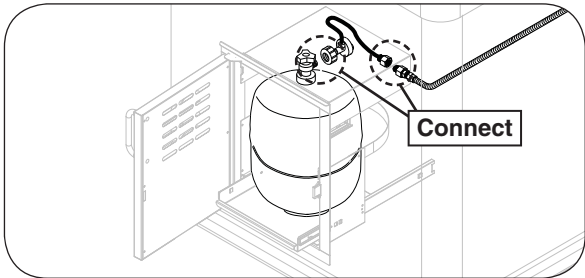

Fig. 1-3 Install tank and connect to unit
5. Place your propane tank in the door's tank tray and properly connect a regulator hose assembly to it. Then attach the hose to the adapter found on the interior of the door assembly. See Fig. 1-3.